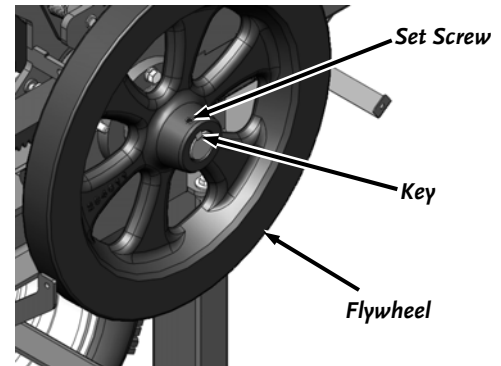

Figure 25
- Use a 3/16" Allen Wrench to loosen the Set Screws on the Flywheel Hubs and with help from another person pull the Flywheels from the Shafts (**Figure 25**).